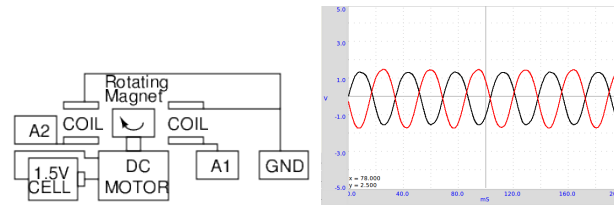

Figure 3.2: Wiring schematic and voltage output of the AC generator, with coils placed on opposite sides of the rotating magnet..
**Observation** The voltage output is shown in figure 3.2. The phase difference between the two voltages depends on the angle between the axes of the two coils.